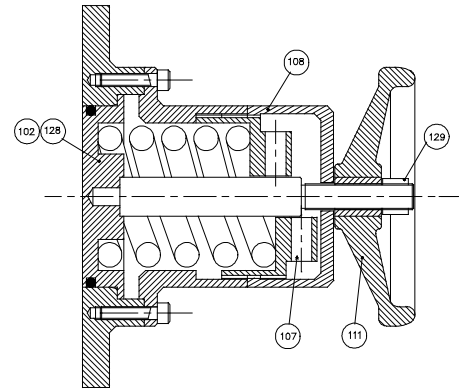

Figure 12
Spring Loaded with Manual Lift - see Figure 12.
- Remove cover (108). For integral relief valve with manual lift, see Figure 12; first remove nut (129) and hand wheel (111).
- Reinstall cover (108). For integral relief valve with manual lift, see Figure 12; reinstall hand wheel (111) and nut (129).
For Integral Relief Valve with Manual Lift - see Figure 12.